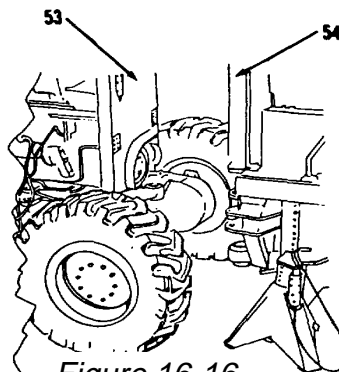

Figure 16-16.
- 28. Separate rear frame (53) from front frame (54) by moving rear frame (53, Figure 16-16) rearward with forklift.